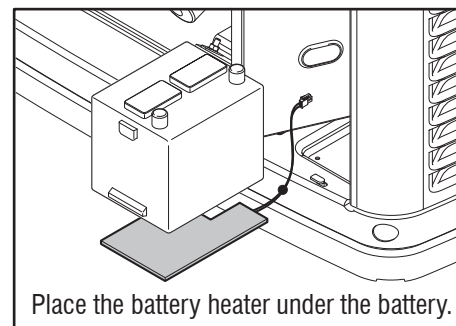

Figure 2
3. Using a clean towel, wipe the bottom of the battery to remove any dirt, oil, or other contaminants. Install battery heater by placing underneath battery (Figure 2).